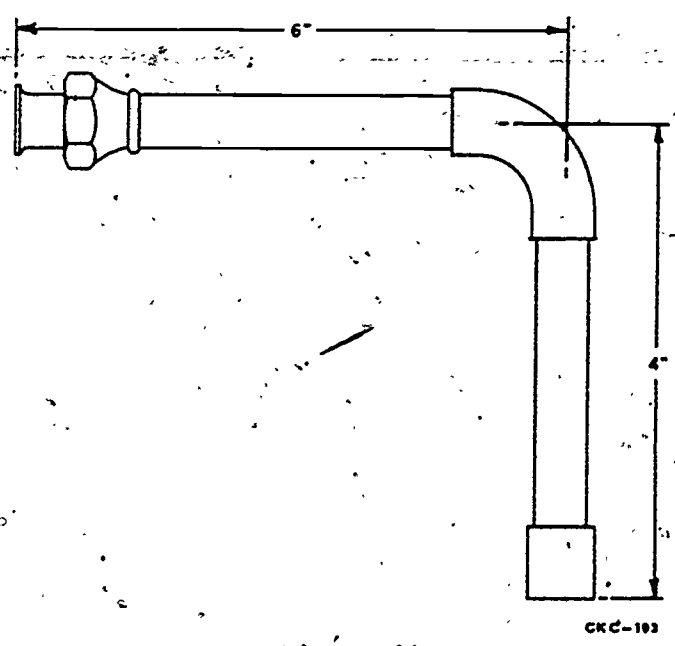

Figure 11
2. Fabricate the system illustrated in figure 11 using 5/8" copper pipe on fittings.